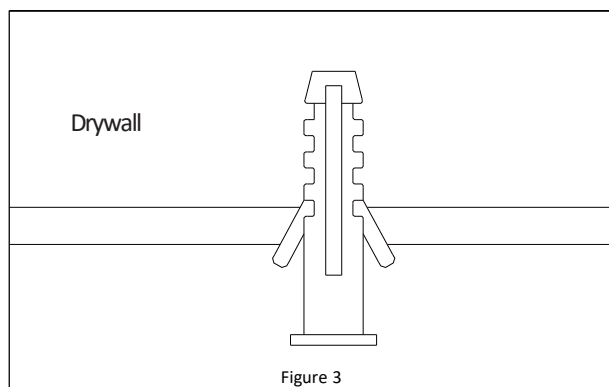

Figure 3
7. Install the supplied wall anchors into the pilot holes made in the previous step. *See Figure 3.*